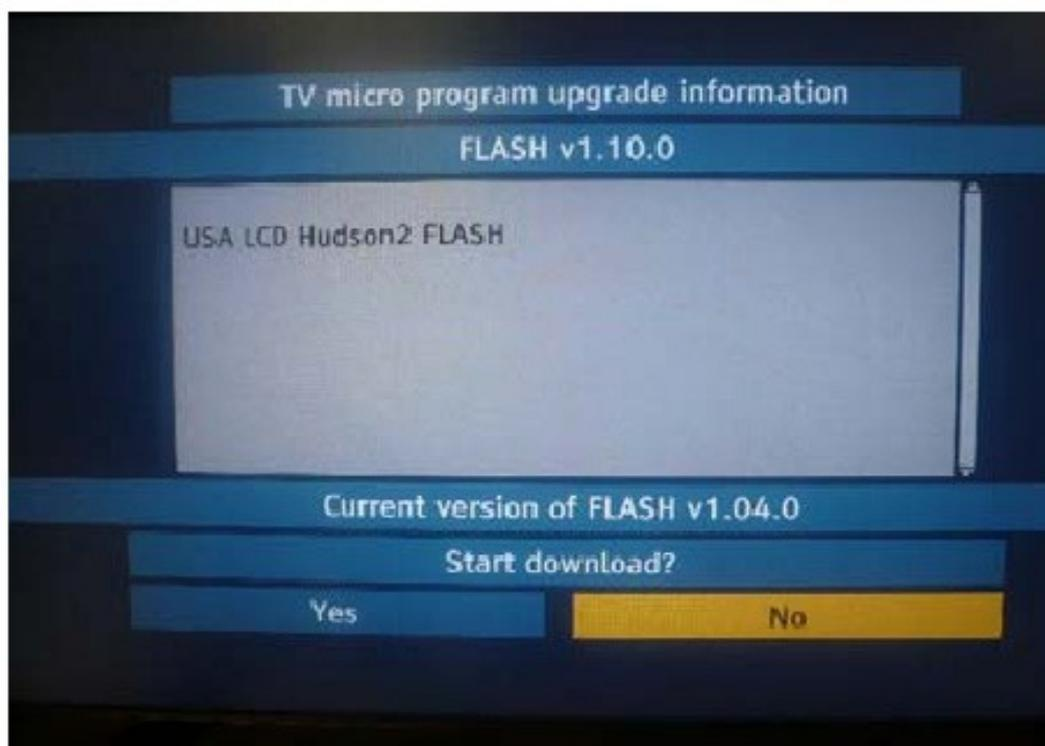

Fig.1
1. Turn on TV and insert SD card into SD card slot. TV will show the screen as in Fig1.